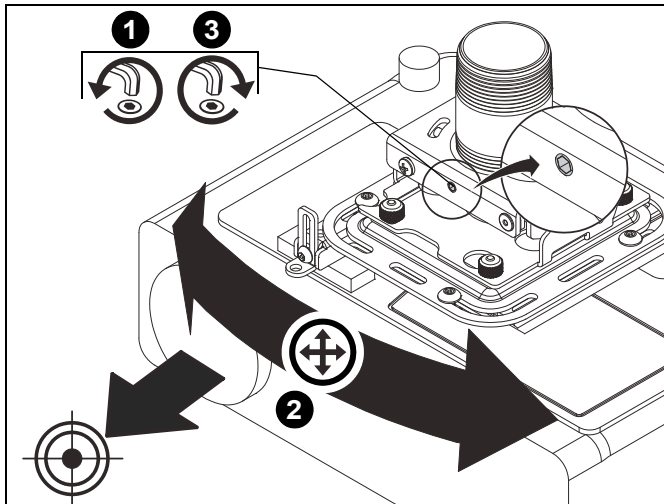

Figure 19
1. Loosen yaw adjustment screw using the 5/32" hex key. (See Figure 19)